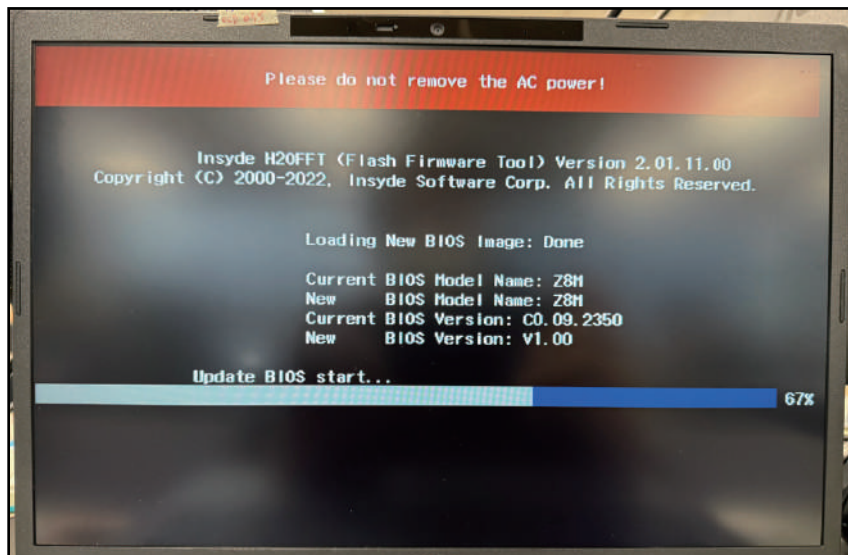

Figure 2-26. Flash Process
5. The system will restart automatically and display the Flash BIOS Process as shown in Figure 2-26.